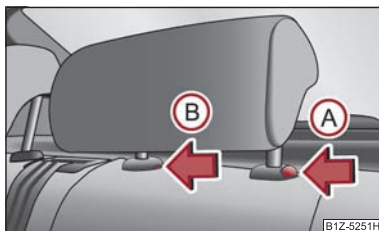

Fig. 49 Rear seats: middle head restraint
- Press the locking button in the direction of arrow (A), press simultaneously the locking button into the opening (B) using a flat screwdriver with a width of maximum 5 mm and pull out the head restraint ⇒ fig. 49.